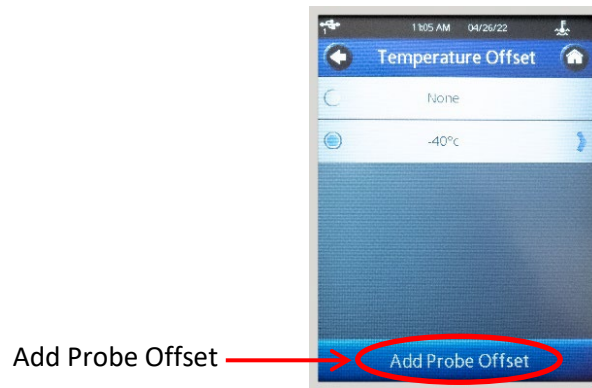

Figure 28: Screen to Change Temperature Offset Name and Value
a. Press **Add Probe Offset**. See Figure 28.